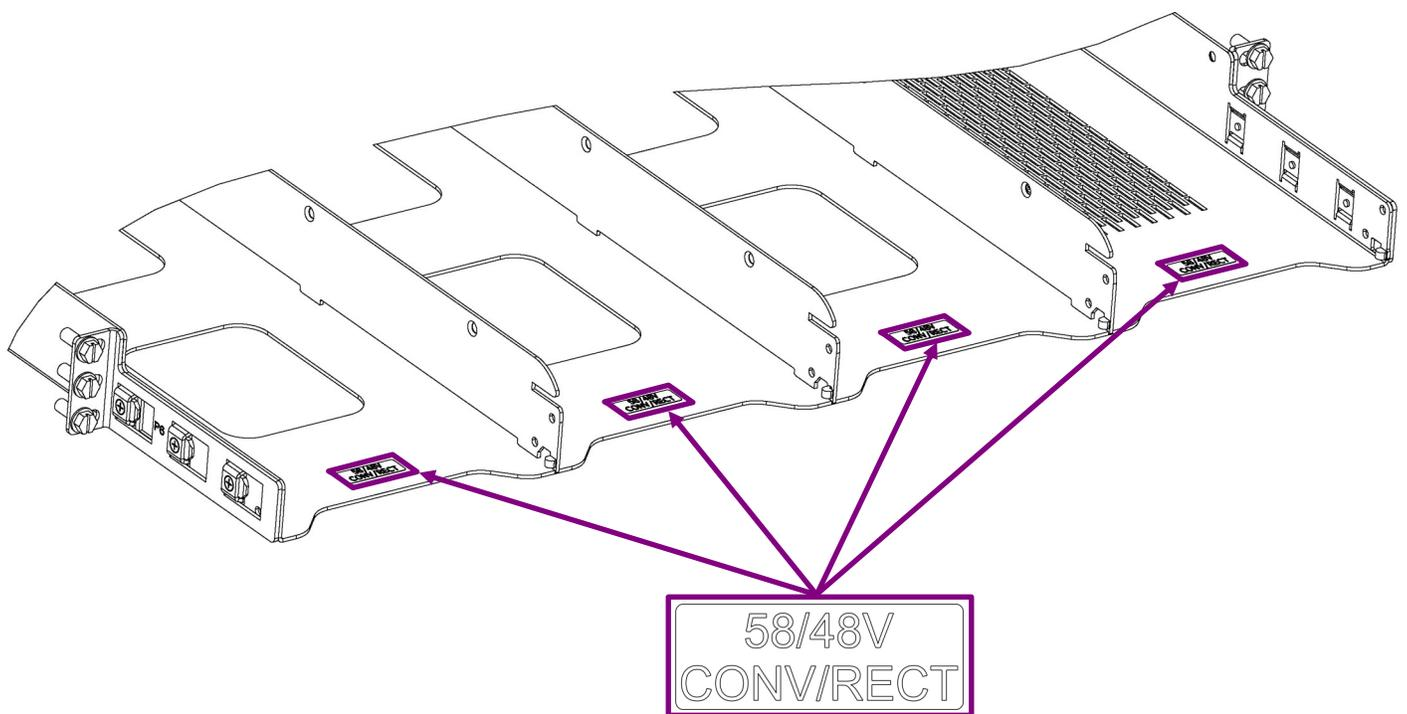

Figure 7. Applying label E
2. Paste Label-E (8600481263P) on front of the converter-Rectifier shelves (4 label for shelf) in each slot as shown in figure 7.